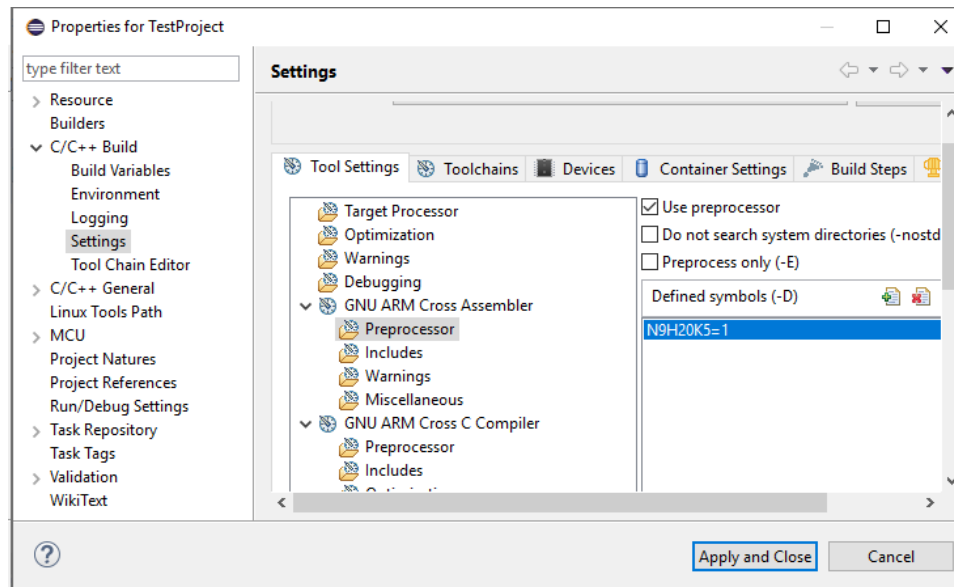
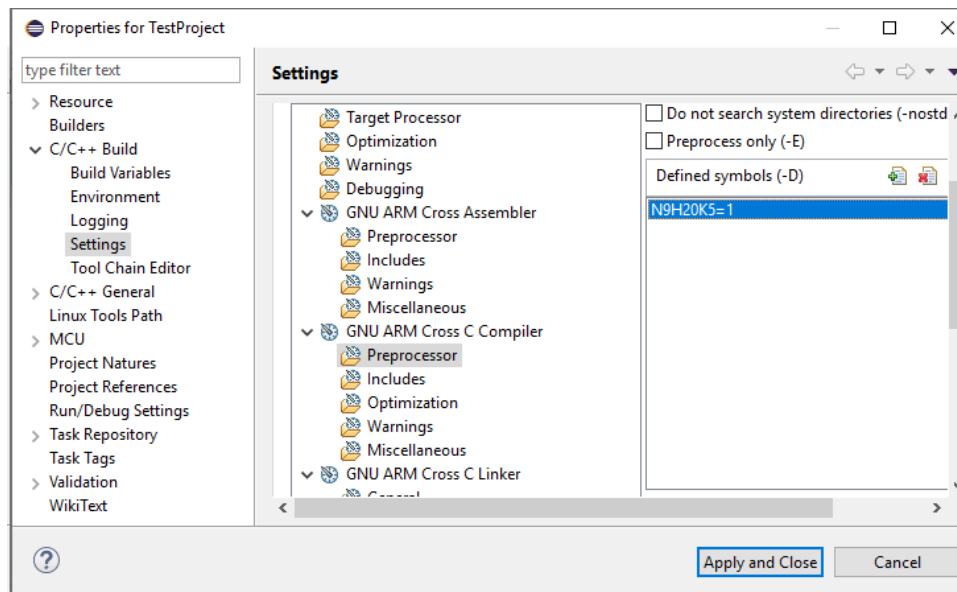

Figure 2-12 Symbol Definition in Assembler
Figure 2-13 Symbol Definition in C Compiler
4. Defines the symbol for different devices (N9H20K1/N9H20K3/N9H20K5) in **Assembler/C Compiler Preprocessor** as shown in Figure 2-12 and Figure 2-13, respectively